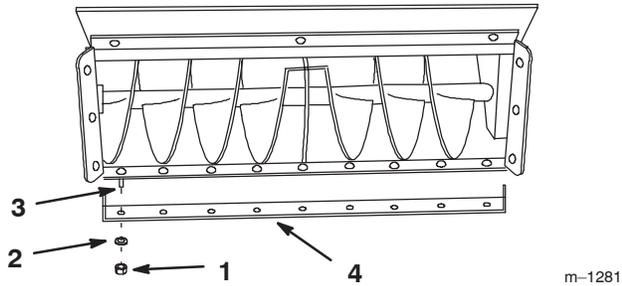

Figure 11
2. Remove the nuts, washers, carriage bolts, and scraper blade (Fig. 11).
3. Replace the scraper blade and secure the new blade with the previously removed hardware (Fig. 11).